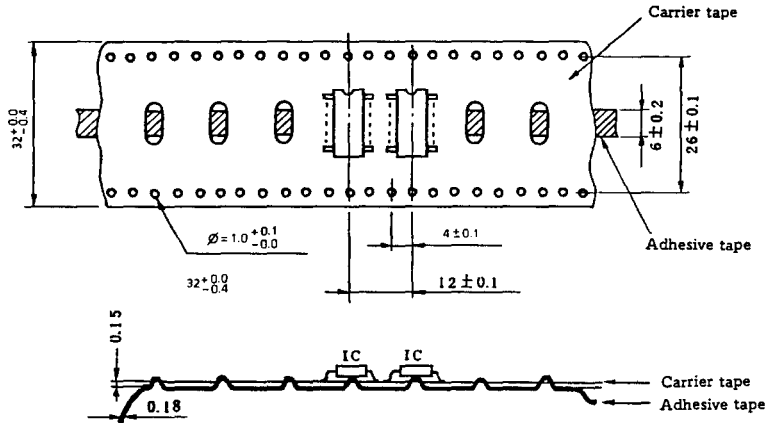

Fig. 6-2 Taping
(1) Tape shape and dimensions (Fig. 6-2)